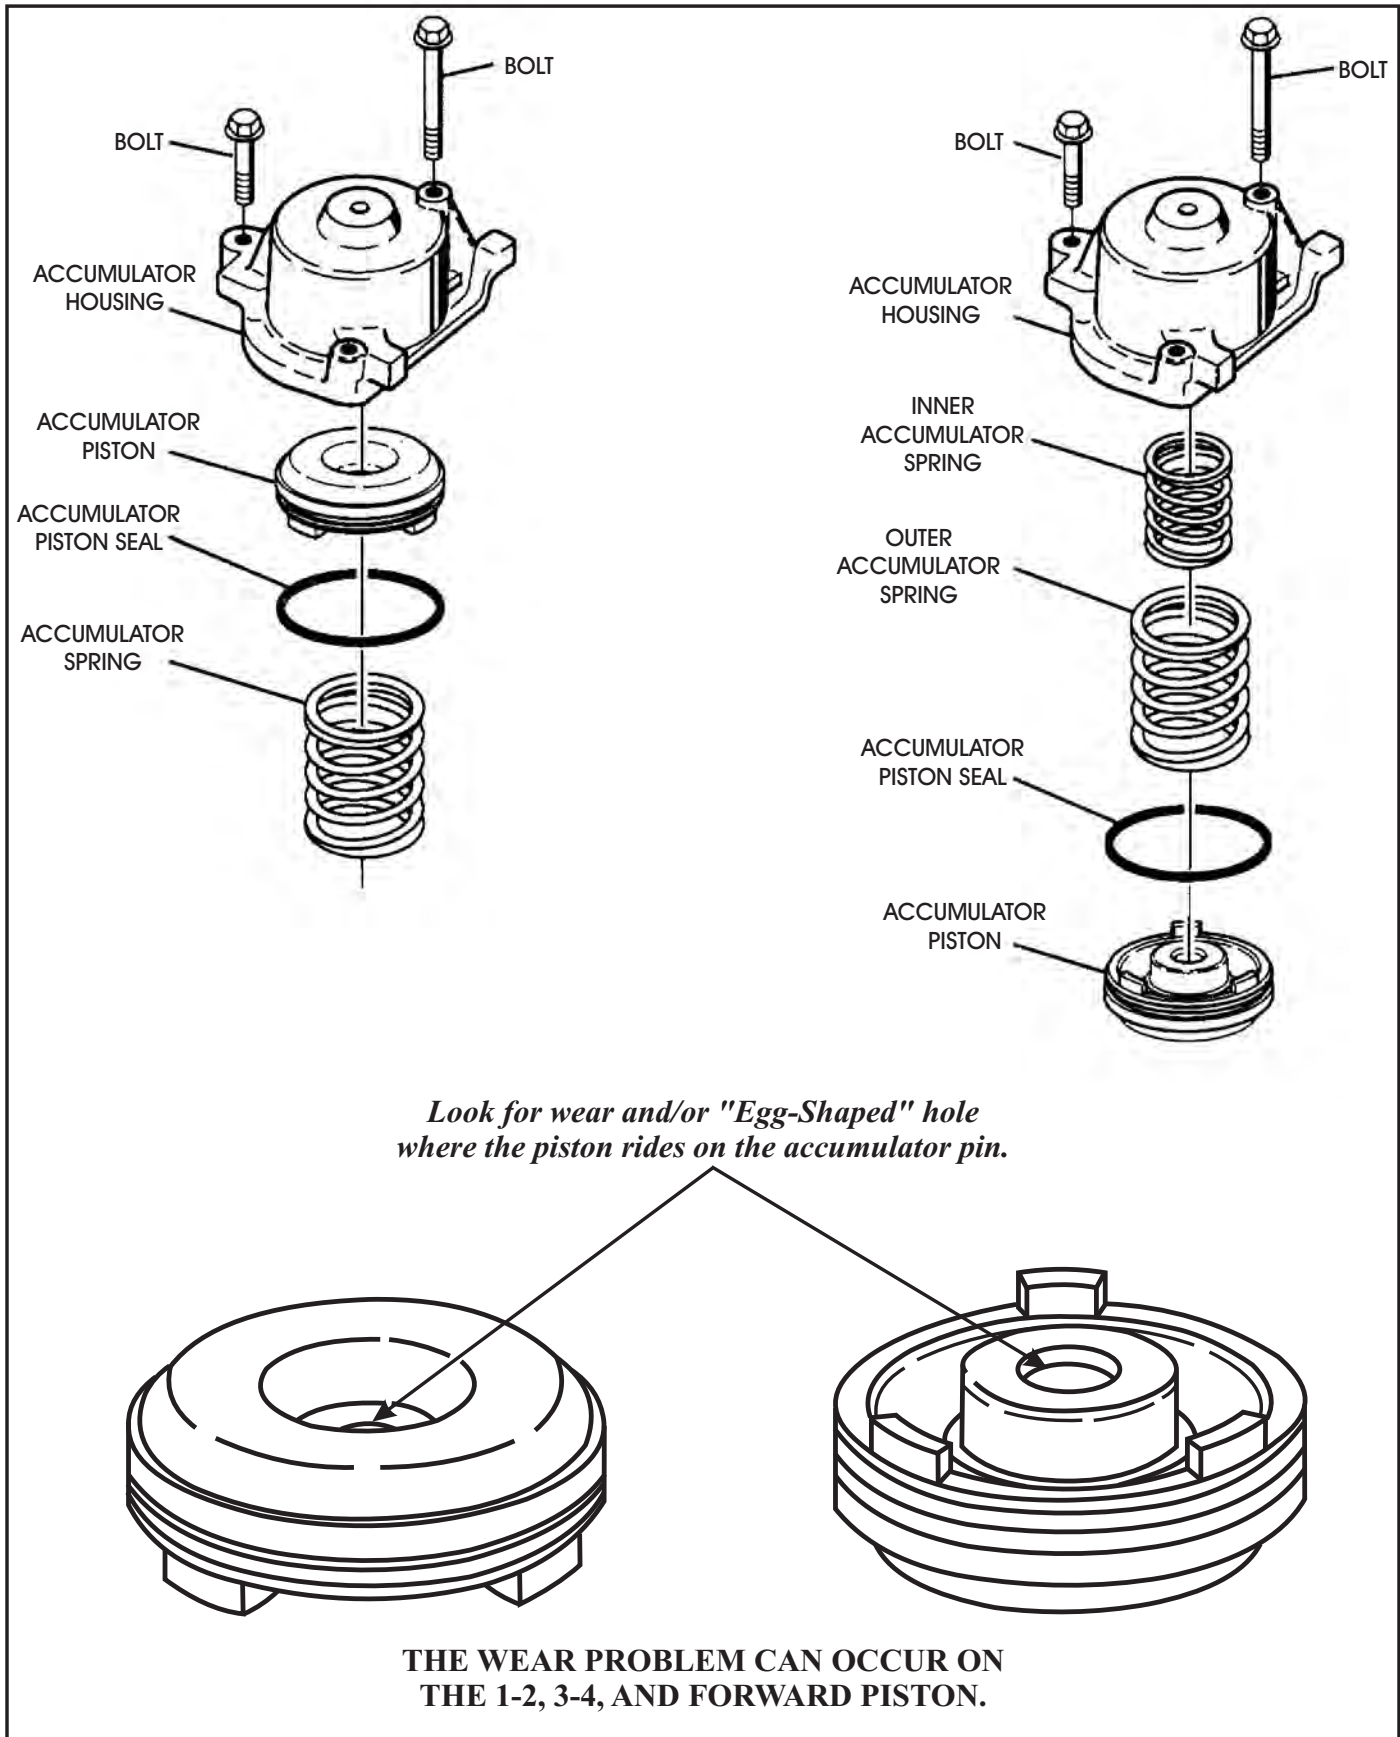

Figure 1
CHANGE: Beginning on May 11, 1998 (Julian Date 131) all THM 4L60-E transmissions were built with a new design plastic 1-2 Accumulator Piston, and an ovate (oval) wire outer accumulator spring, to replace the previous design aluminum piston and round wire outer accumulator spring, as shown in Figure 1.
- (1) 1-2 ACCUMULATOR PISTON - Now manufactured out of plastic instead of the previous aluminum, which necessitated a dimensional change, as the plastic piston is thicker as shown in Figure 1.
- (2) 1-2 ACCUMULATOR OUTER SPRING - Now manufactured out of an ovate (oval) wire instead of the previous design round wire, to eliminate coil bind as shown in Figure 1.